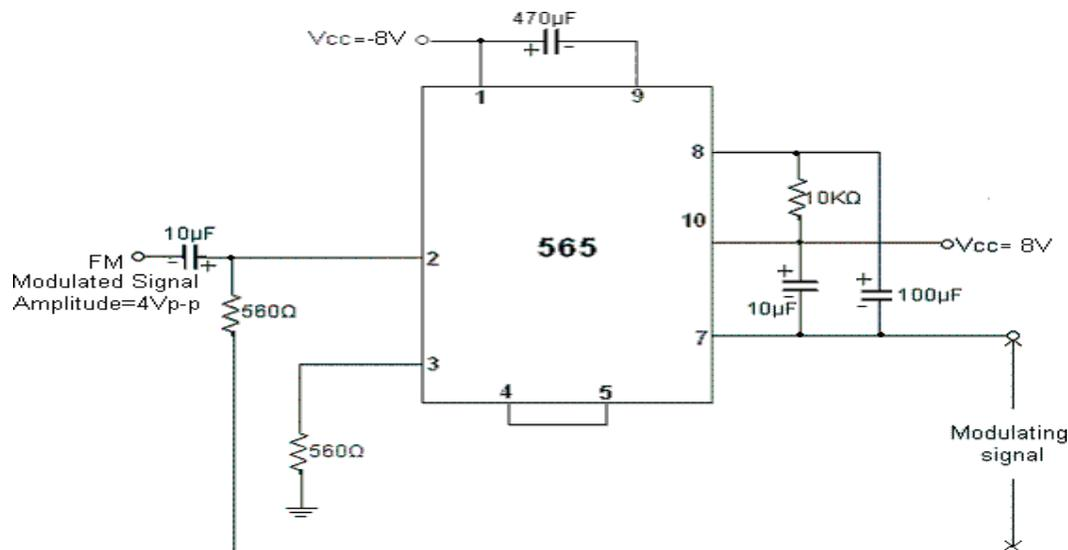

Fig.3.FM Demodulator Circuit
1. Connections are made as per circuit diagram shown in Fig.3